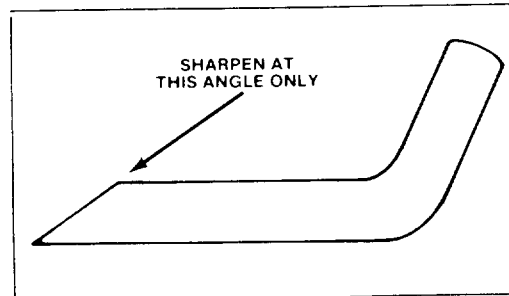

Figure 14
6. SHARPENING BLADE — Using a file, sharpen top side of blade and maintain original cutting angle (Fig. 14). The blade will remain balanced if same amount of material is removed from both cutting edges.